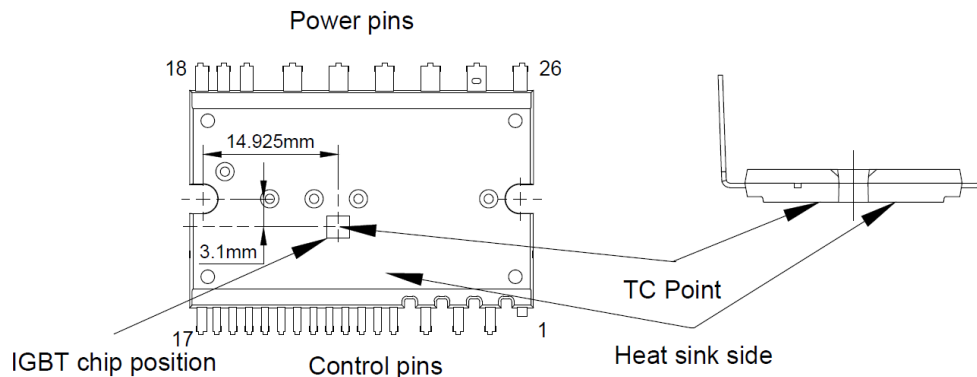

Figure 1. T_C Measurement Point
- For the measurement point of case temperature (T_c), please refer to Figure 1.